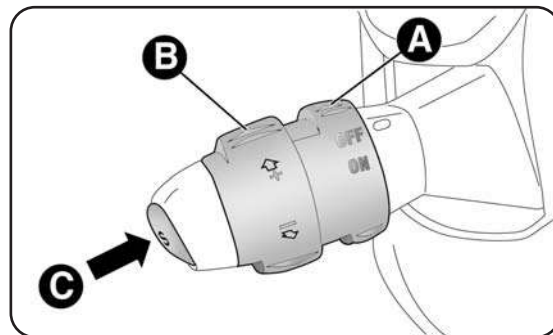

fig. 36
Turn selector wheel A - fig. 36 to ON.
- turn the ring nut A - fig. 36 to ON and press the accelerator pedal until the vehicle reaches the desired speed;
- press button C - fig. 36.
- by temporarily turning ring nut B - fig. 36 to (+).
- by keeping ring nut B - fig. 36 turned to (–) until the new speed is reached; it will then be memorised automatically.
Turn the ring nut A - fig. 36 to OFF or turn the ignition key to STOP. The device is automatically turned off in one of the following cases:
In case of malfunction or if the device is faulty; turn the control A - fig. 36 to OFF and contact a Lancia Dealership, after checking that the protective fuse has not blown.